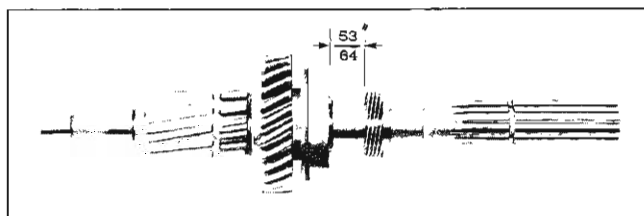

Fig. 7-29 Mainshaft Assembly
5. Start speedometer drive gear on shaft with chamfered I.D. of gear toward bearing. Press gear on shaft until forward face of gear is  $53/64$ " from rear face of bearing (Fig. 7-29).